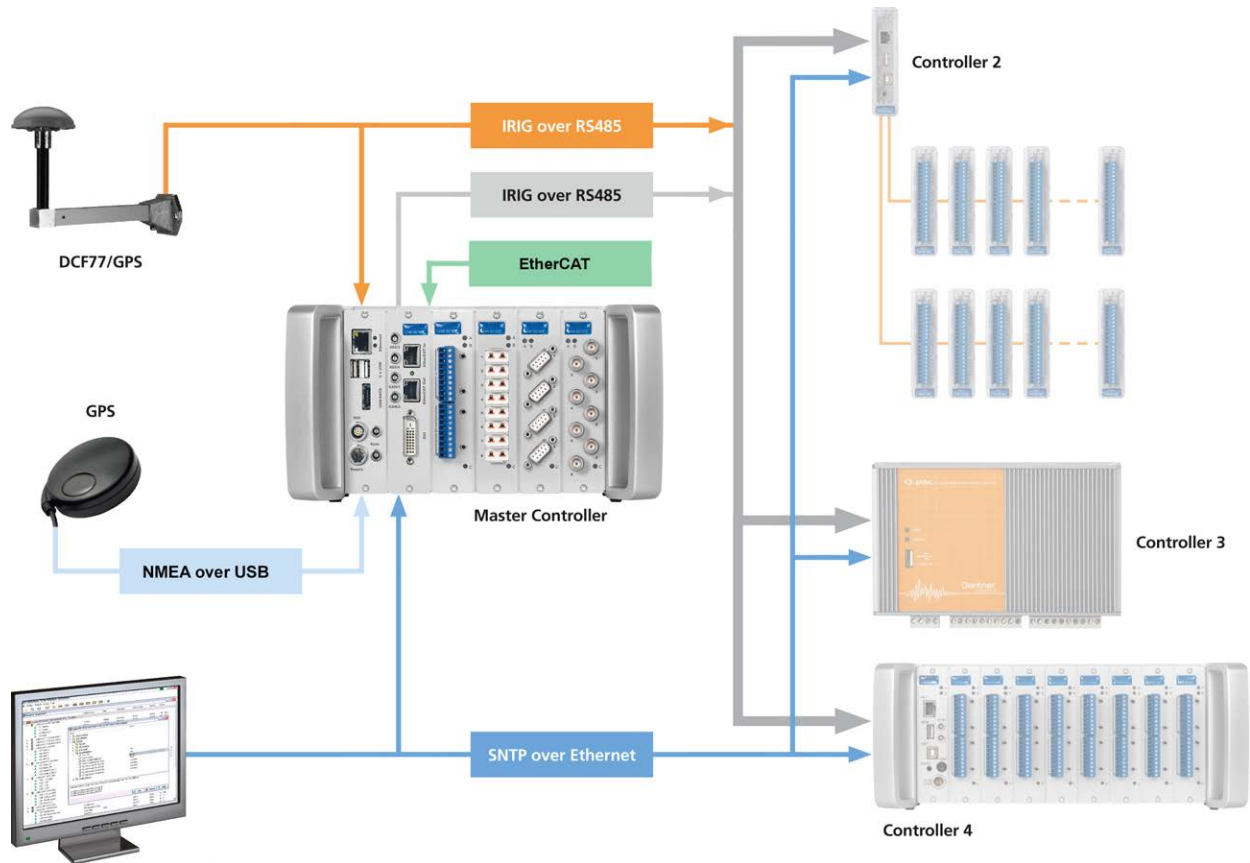

Fig. 5-2 Possible types of time synchronization.
You have various methods of obtaining synchronization, even with several *systems*, i.e. several Test Controllers; (refer also to Fig. 5-2 on page 27):
The master controller (the device which is *not* configured as a slave, refer to Section 6.1.1.3, *Synchronization*, page 40) uses its internal clock for the date/time stamp (gray path in Fig. 5-2). For this type of synchronization (inputs SyA and SyB) you must lay synchronization lines between the Test Controllers; the maximum length of all lines together is 400m. The master controller transfers the time stamp through an RS-485 link to the other Test Controllers. This method achieves the best time synchronization with the smallest jitter (approx.  $\pm 2\mu\text{s}$ ) between the individual modules, because the time information passes simultaneously to all Test Controllers.
As master controller this then synchronizes all other Test Controllers using IRIG (orange colored path in Fig. 5-2) as with Variant 1. If it is not possible to connect the individual Test Controllers via synchronization lines or this is not desired, you can also connect a receiver to each Test Controller (Variant 2b).
With this method the time information of the GPS signal is evaluated instead of a pure time signal. In addition you can also process the position details of the GPS receiver in the system and assign the measurements (light blue path in Fig. 5-2). If it is not possible to connect the individual Test Controllers via synchronization lines or this is not desired, you can also connect a receiver to each Test Controller (also to a Q.gate Test Controller) (Variant 3b).
4. You define a PC as an SNTP time server which can distribute the NTP time stamp to all Q.brixx station, Q.gate or Q.pac Test Controllers (dark blue path in Fig. 5-2).